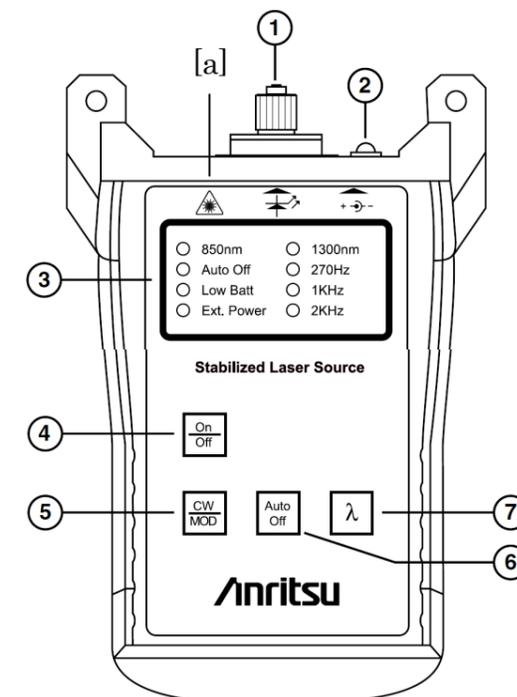

Figure 2 CMA5 Series Light Source Operating Controls
a. Hazard Symbol: It is located on the front panel that identifies the Class 1 laser port (See Figure 2)